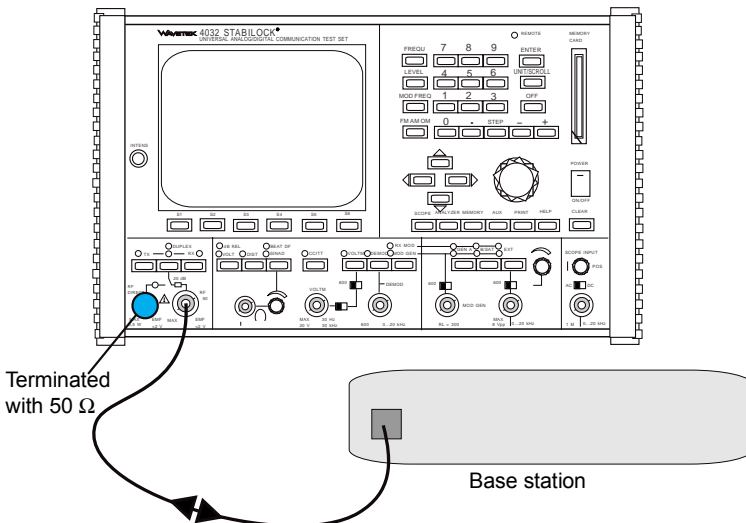

Fig. 10.1: Measurement setup.
- Connect test equipment as shown in **Fig. 10.1**.